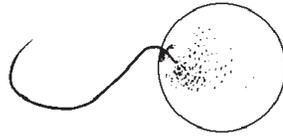

Figure 17
2. The Ping-Pong ball is the nose cone for the R2K. Using the cool-melt glue gun, glue one end of the string to the ball (Figure 17).